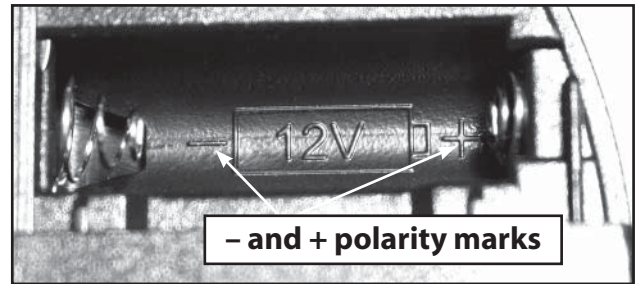

FIG. 8-2 Match battery polarity
- Make sure new battery is facing proper direction (Match battery polarity with symbols inside battery housing) (Fig. 8-2).